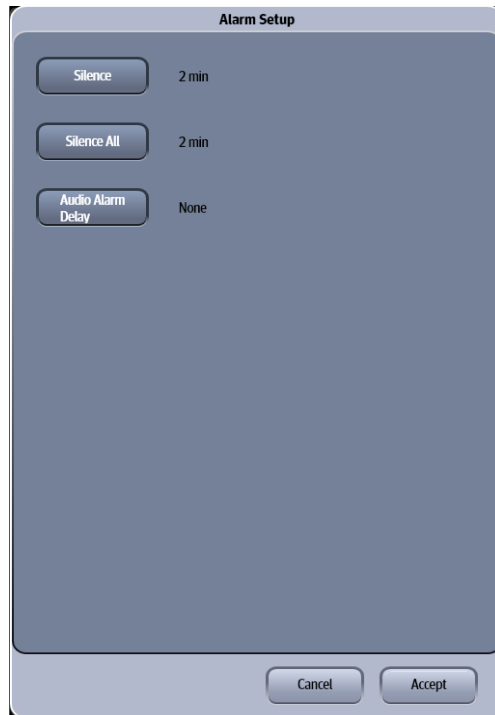

FIGURE 8-4 Example Alarm Setup Tab
2. Select the **Alarm Setup** button to display the **Alarm Setup** dialog (as shown in FIGURE 8-4).